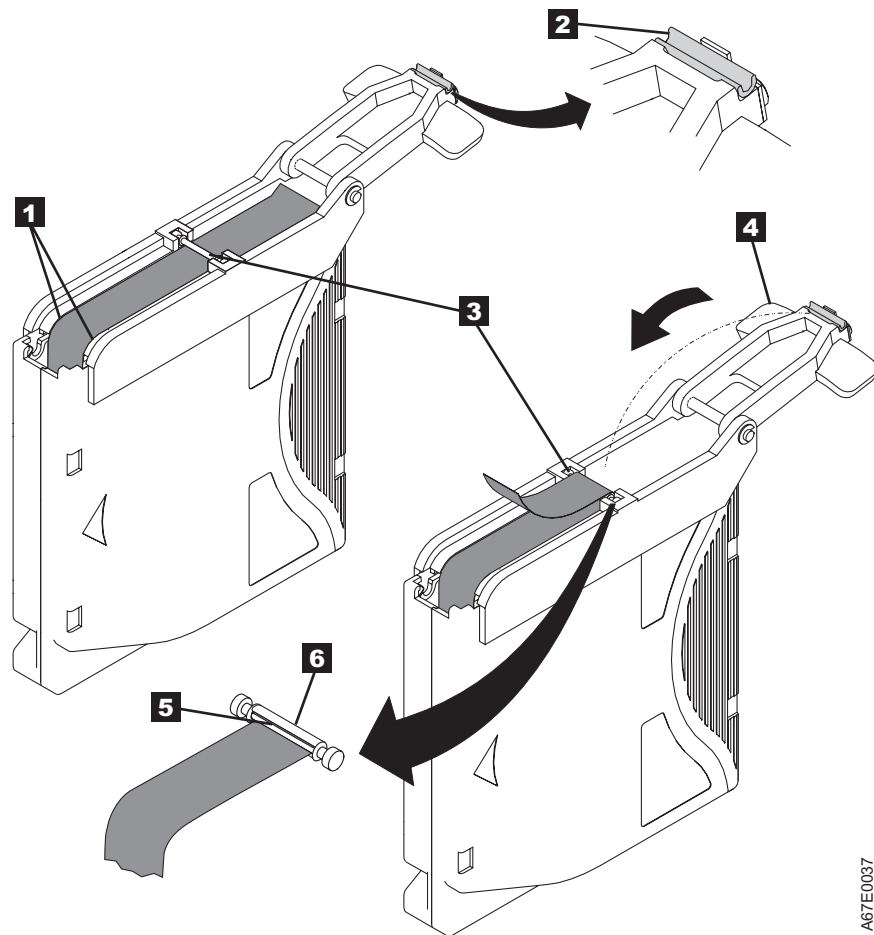

Figure 25. Attaching the leader pin to the tape
7. Position the tape in the alignment groove of the leader pin attach tool (see **1** in Figure 25 on page 48).
8. Place a new C-clip into the retention groove **2** (Figure 25 on page 48) on the leader pin attachment tool and make sure that the clip's open side faces up.
9. Place the leader pin (from step 6) into the cavity **3** (Figure 25 on page 48) of the leader pin attach tool.
10. Fold the tape over the leader pin and hold it with your fingers (see Figure 25 on page 48).